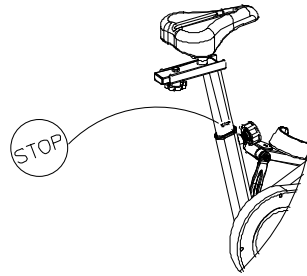

Figure 14
14. Raise the armrests and seat until they reach the marked STOP position, which denotes the maximum adjustment scale. Do not adjust the components any higher, as shown in Figure 14.